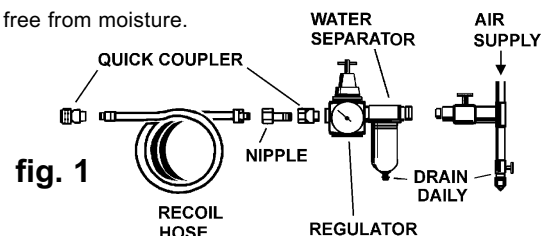

fig. 1
- 4.2. To avoid excessive wear of the inverter ensure that the air supply is clean and free from moisture. We recommend connection to a clean air system as shown in fig. 1.